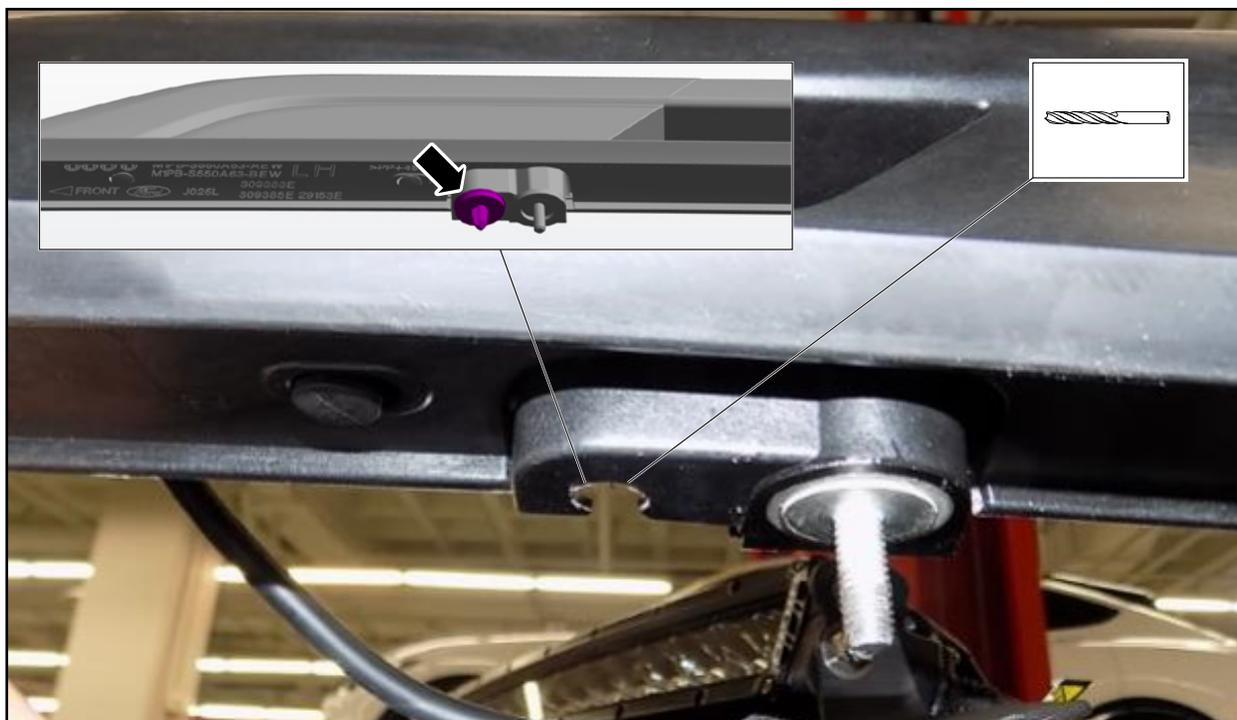

FIGURE 35
35. Remove locating clip and enlarge hole using a 3/8 in (9.5 mm) drill bit. See Figure 35.